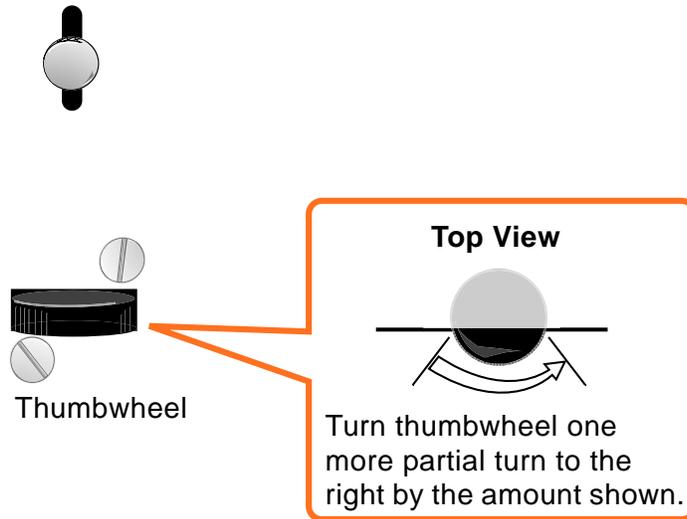

Figure 74. Thumbwheel Rotation
- 4 Turn the thumbwheel to the right just until the “clicking” stops. Then turn it one more partial turn, as shown in Figure 74.